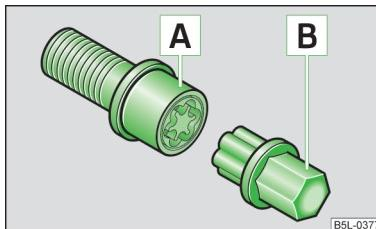

Fig. 144
- Insert adapter [B] » Fig. 144 with its toothed end fully into the inner toothings of the anti-theft wheel bolt [A] to the stop so that only the outer hexagon projects.